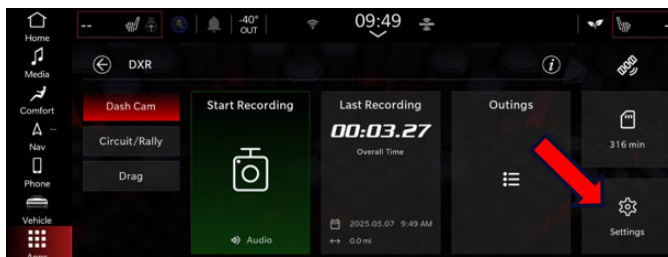

Fig. 14
27. Click the Settings button to open the settings menu Fig. 14.